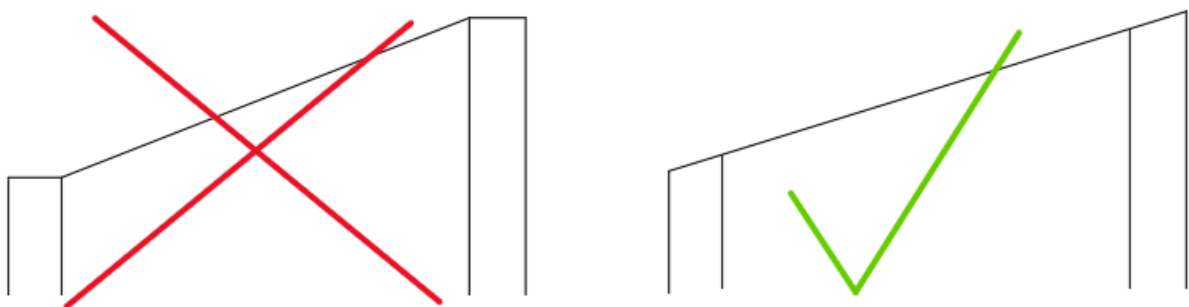

Figure 1 – Upstand top surface set-up
5. Before starting installation, Glazing Vision advises that the physical upstand dimensions are cross-checked with those given for the order, to ensure the product will fit. The upstand will need to be within ± 10 mm of the ordered size. The top surface of the upstand should be in plane with the rooflight (see figure 1) without undulations greater than ± 2 mm. Also check the diagonals to ensure that the upstand has been constructed square. The upstand must be weathered as per the sales drawings. **If using any metallic waterproofing material, this cannot be applied across the top surface of the upstand as this will cause a thermal bridge which can lead to internal condensation and invalidate the product warranty.**